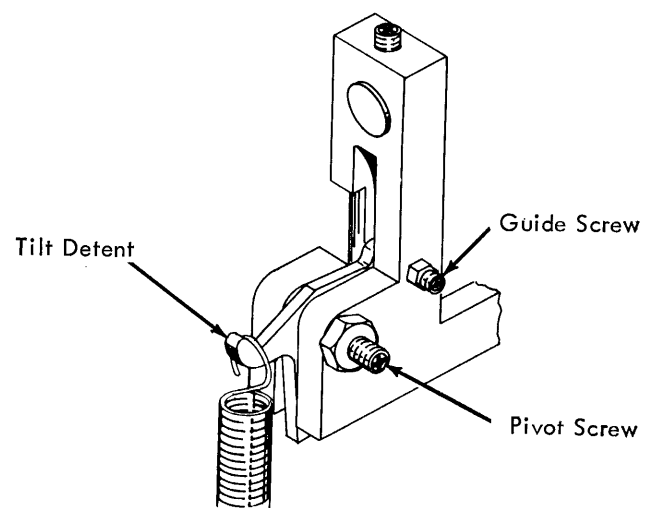

FIGURE 96. Tilt Detent Adjustment
5. Tilt Detent - Adjust the guide and pivot screws so that the tilt detent will operate freely with no side play (Fig. 96).